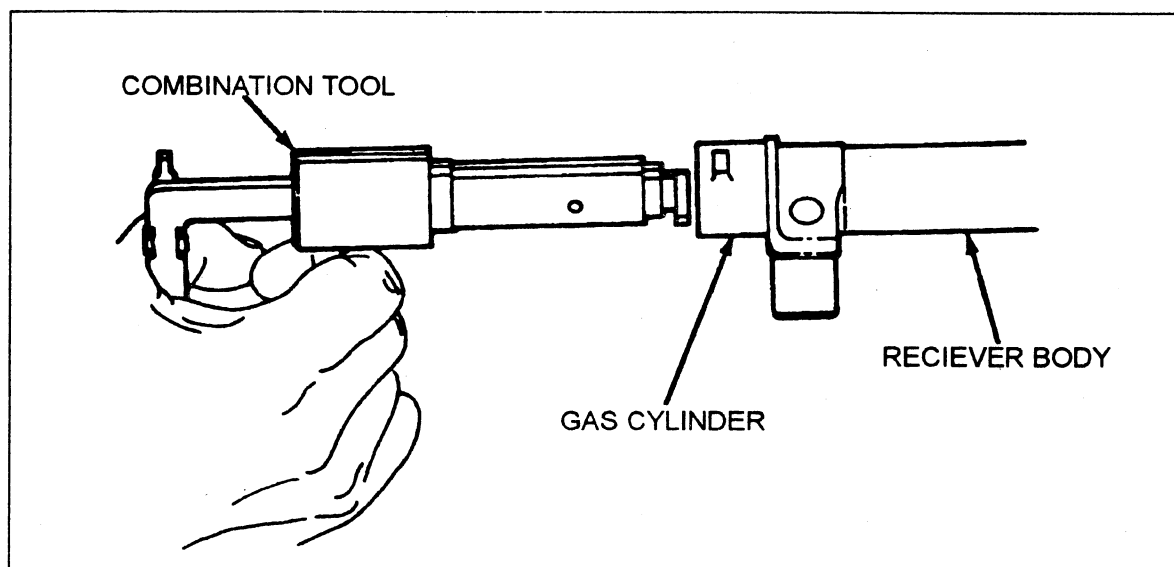

Fig 1-30. Removing carbon from gas cylinder.
- (9) Ensure the combination tool shoulder is fully inserted and seated against the fore end of the gas cylinder in the receiver body. Apply slight pressure to the handles. Twist back and forth to remove carbon (see fig 1-30).